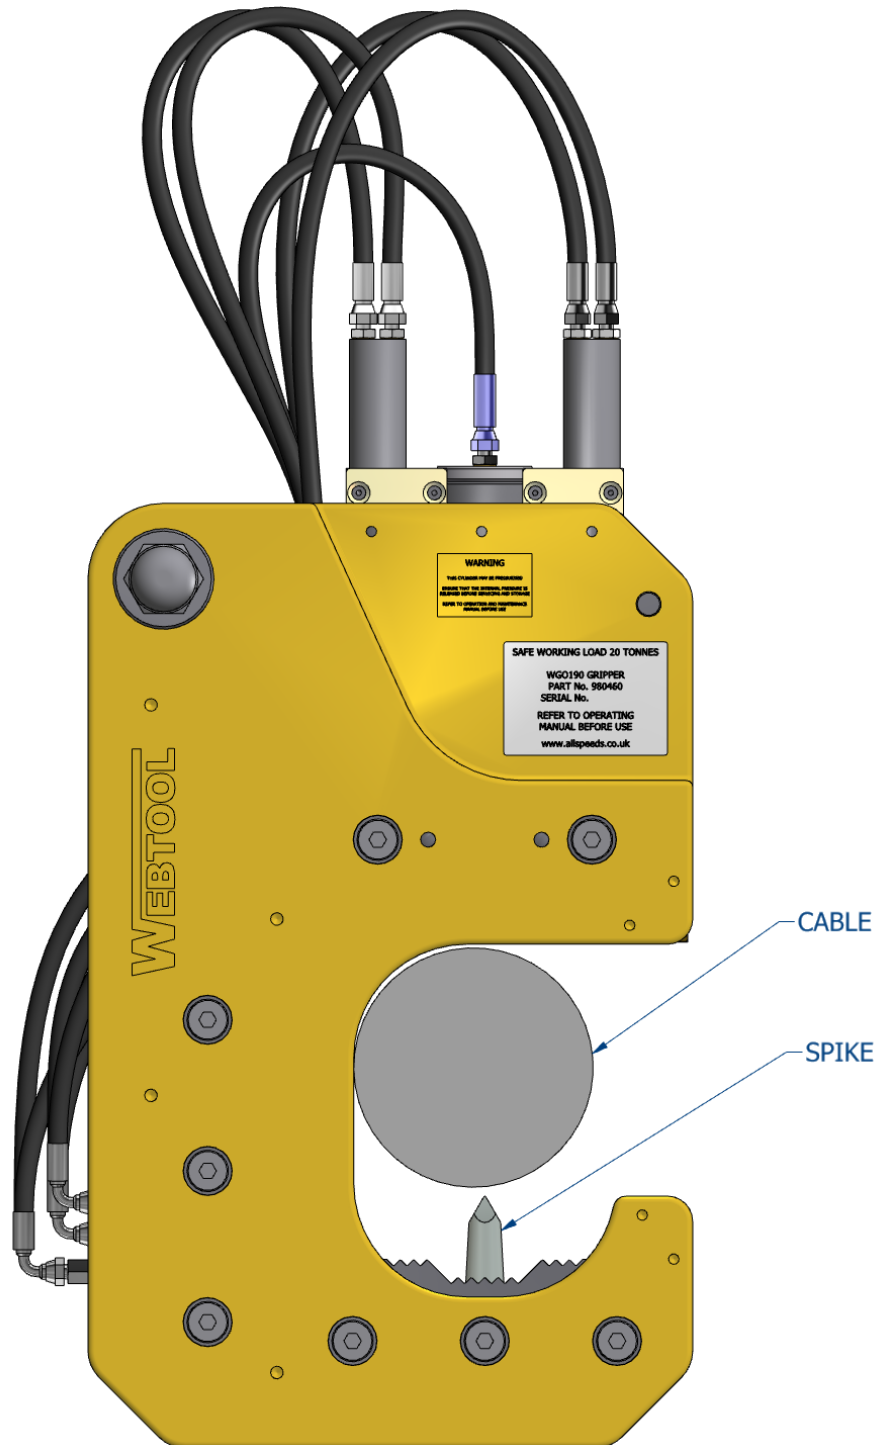

Figure 3 – Cable correctly positioned inside mouth of tool
2. Deploy the tool and position so that the cable or wire rope is located in the mouth of the gripper, touching the back of the throat, as shown in fig 3 below.